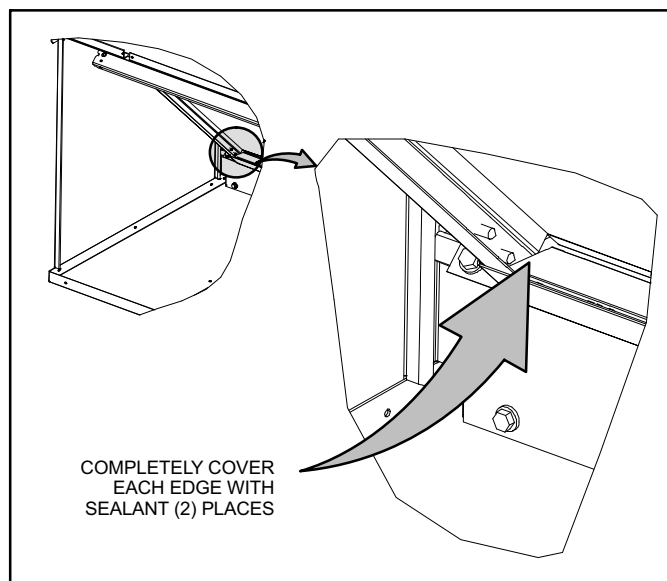

Figure 5. Applying Sealant to Edges of Drip Shield
10. Apply sealant to the edges of the drip shield where it meets the coil supports at each end of the coil (see figure 5):
- a All models: (2) places